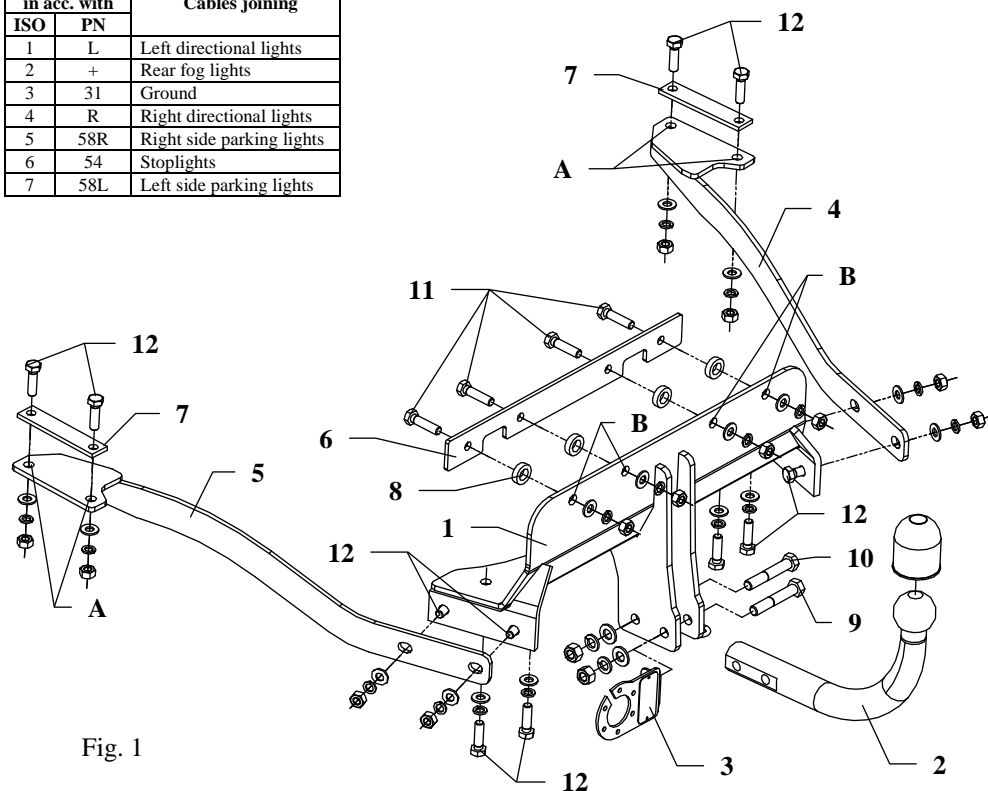

Fig. 1
5. To so prepared holes, apply the main plate (pos. 1) and fix using bolts M10x40mm (pos. 11). Use the distance sleeves $\varnothing 25; L=7\text{mm}$ (pos. 8) and plate (pos. 6). Look at the drawing 1.
6. Fix side brackets (pos. 4 and 5) together with fish-plates (pos. 7) to the main plate of the towbar (pos. 1) and to the floor. See the drawing 1.
9. Fix tow ball (pos. 2) using bolt M12x75mm (pos. 9) and M12x70mm (pos. 10). With bolt M12x75mm fix also a socket plate (pos. 3). See figure 1.